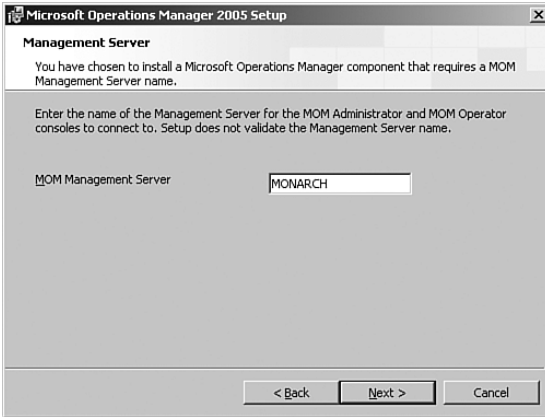

FIGURE 8.16 Specify the name of the management server.
3. After passing the prerequisite check, you are prompted for the name of the management server as shown in Figure 8.16.